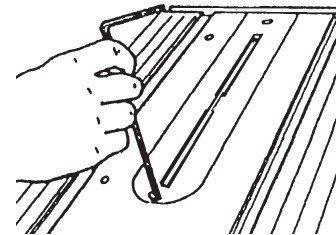

Figure 16
- Use a 5/32" Allen Wrench to remove the Table Insert, as demonstrated in Figure 16.